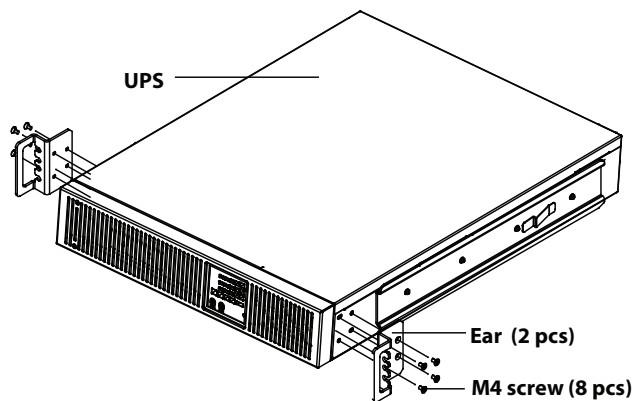

Figure 13: Installing ears
- Use M4 screws to install ears on both sides of the UPS as shown in Figure 13.